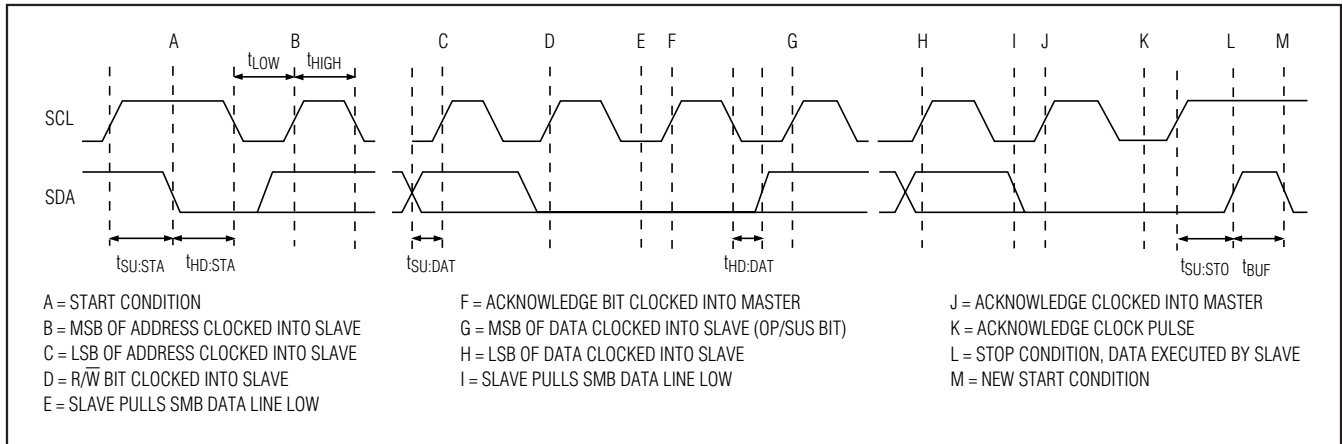

Figure 5. I2C-Compatible Serial-Interface Timing Diagram
The serial interface consists of a serial data line (SDA) and a serial clock line (SCL). Standard I2C-compatible write-byte commands are used. Figure 5 shows a timing diagram for the I2C protocol. The MAX1586/MAX1587 are slave-only devices, relying upon a master to generate a clock signal. The master (typically a microprocessor) initiates data transfer on the bus and generates SCL to permit data transfer. A master device communicates to the MAX1586/MAX1587 by transmitting the proper address followed by the 8-bit data code (Table 2). Each transmit sequence is framed by a START (A) condition and a STOP (L) condition. Each word transmitted over the bus is 8 bits long and is always followed by an acknowledge clock pulse.
When the serial interface is inactive, SDA and SCL idle high. A master device initiates communication by issuing a START condition. A START condition is a high-to-low transition on SDA with SCL high. A STOP condition is a low-to-high transition on SDA while SCL is high (Figure 5). A START condition from the master signals the beginning of a transmission to the MAX1586/MAX1587. The master terminates transmission by issuing a not acknowledge followed by a STOP condition